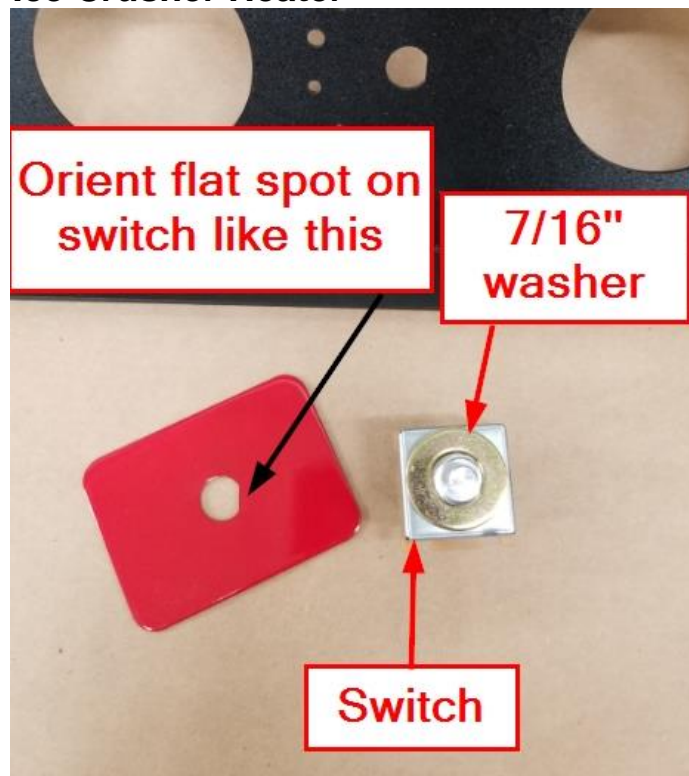

Figure 13
- f. Place a 7/16" Flat Washer over the switch armature, then place one of the Red metal plates as shown in Figure 13. Insert the switch from behind the Center Vent Bracket and secure it with the Low Profile Hex Nut. Tighten firmly.